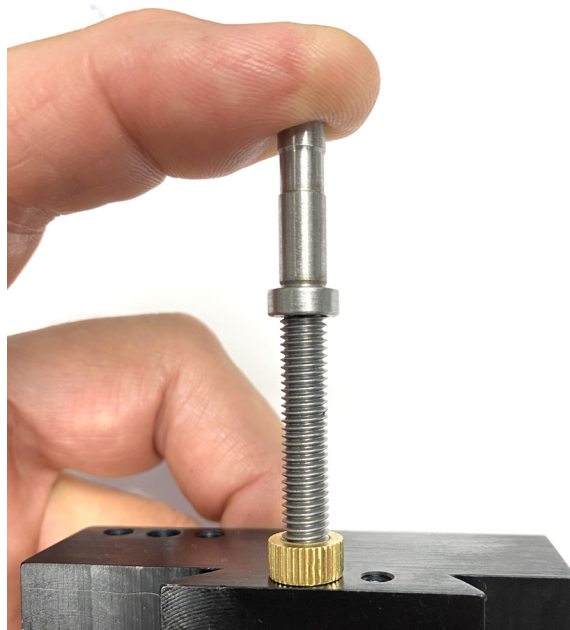

FIGURE 6
4. Thread the anti-backlash nut down until the body is flush with the face of the lathe saddle (see Figure 6).